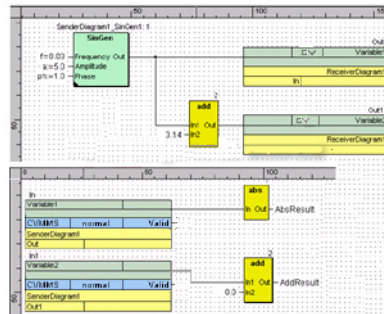

Figure 101. Diagram Variables without Cross Communication Field
- Create logic in SenderDiagram1 and ReceiverDiagram1 as shown in Figure 101.